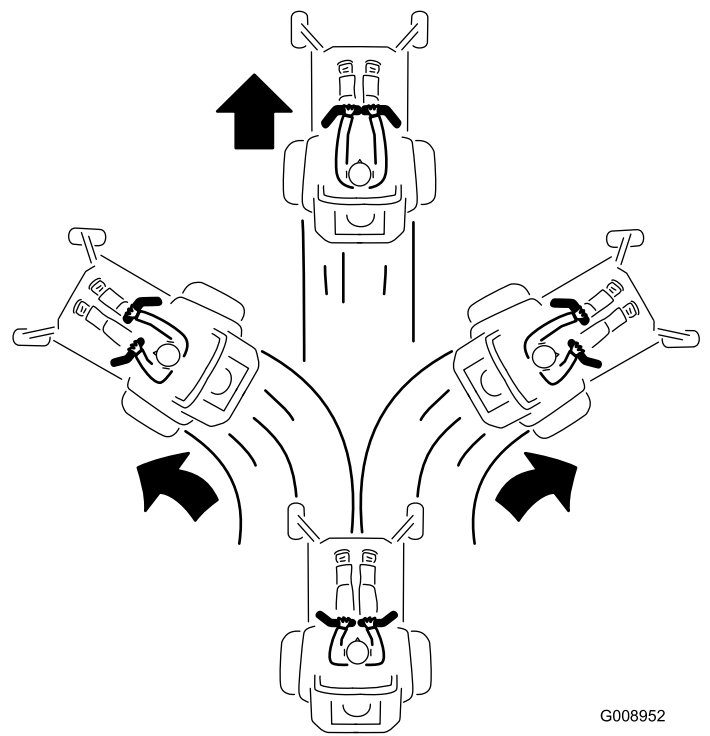

Figure 23
3. To go forward, slowly push the motion-control levers forward (Figure 23).